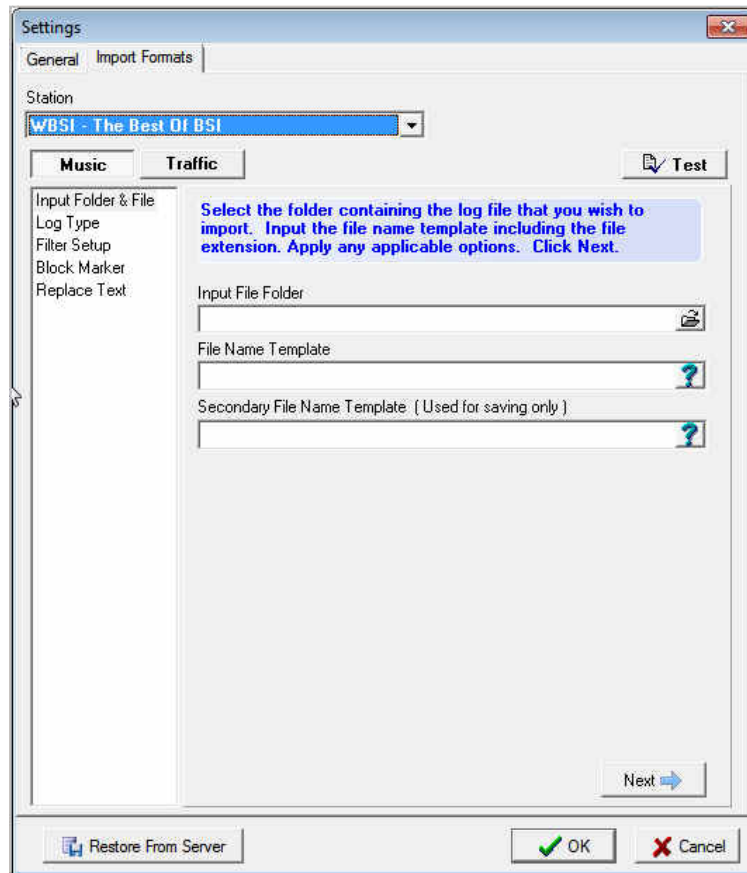

Figure 9-6. Input File Folder and File Settings
*The **Import Formats** tab gets populated with fields and buttons (see Figure 9-6).*